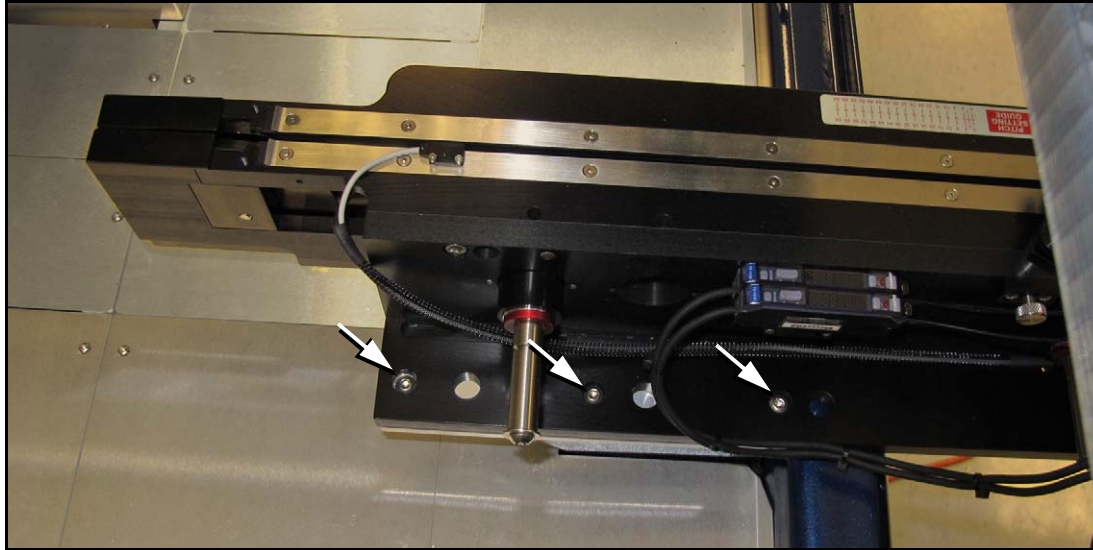

Figure 2-20: TM-50 Tape-Output Module mounting screws. Three more locations on opposite side (hidden in this view). Viewed from the back of the machine.
2. Install the Tape Output Module onto the plate in the PSV7000 workspace and screw it down with six screws (4 mm hex key). See Figure 2-20.